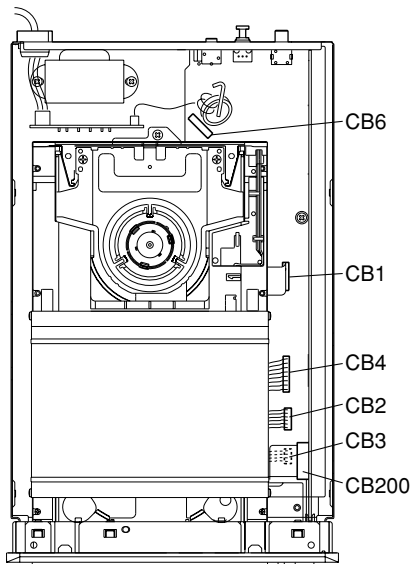

Fig. 2
- a. Disconnect cable from Connector (CB200) in Fig. 2.
- b. Disconnect cables from Connectors (CB1, CB2, CB3 and CB4) in Fig. 2.
2. Disconnect cable from Connector (CB6) in Fig. 2.